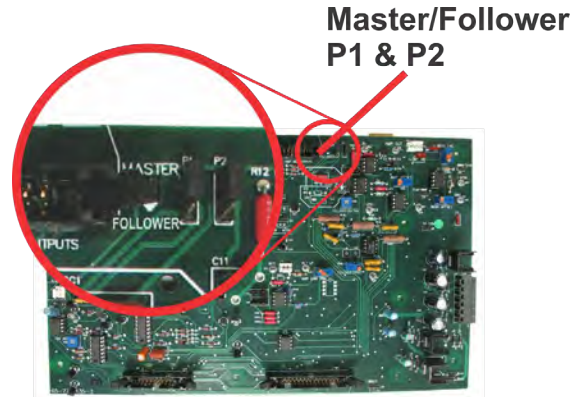

Figure 3.6 – Master/Follower Jumper Locations
1. On the main board, locate the jumpers P1 and P2 (Master/Follower). For Follower operation, set both jumpers to the DOWN position (lower two pins shorted). See **Figure 3.6** for jumper locations.